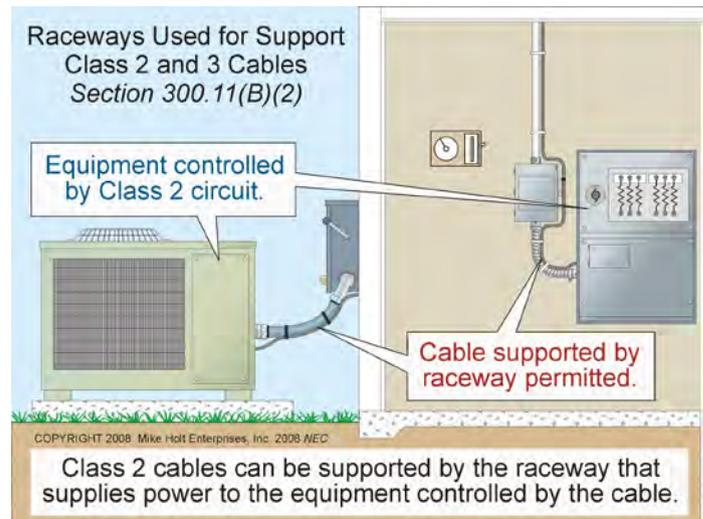

Figure 300-20
(1) Identified. Where the raceway or means of support is identified for the purpose.
(2) Class 2 and 3 Circuits. Class 2 and 3 cable can be supported by the raceway that supplies power to the equipment controlled by the Class 2 or 3 circuit. **Figure 300-20**